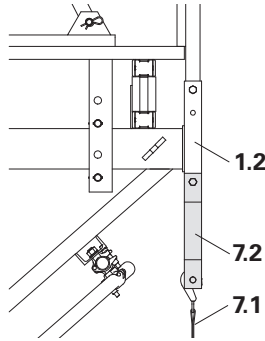

Fig. B1.32
2. Mount tension belt (7.1) to the bolts using the end of the belt without turn-buckle. (Fig. B1.32)